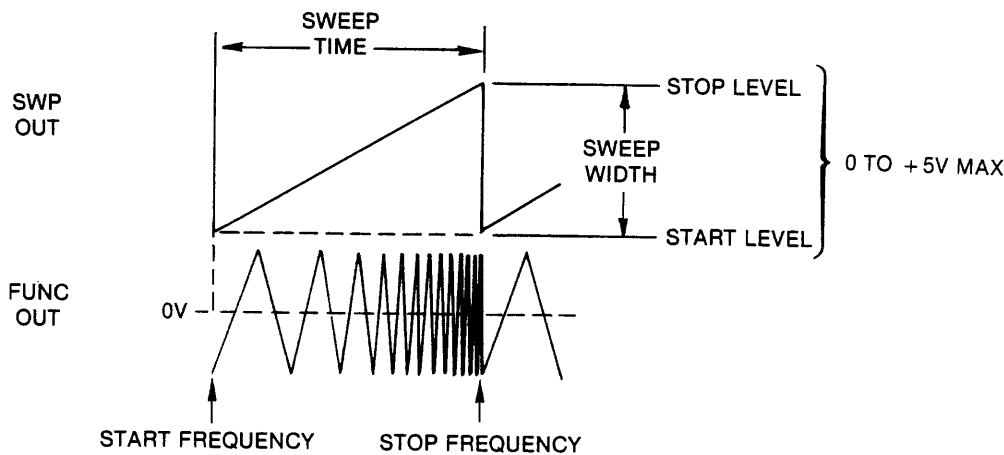

Figure 3-3. Sweep Time and Width
5 Sweep Set Control The Swp Set control, the inner knob of the concentric pair, sets the stop frequency in the sweep modes (see figure 3-3).
- 12 **Sweep Time Switch** The Sweep time button, when pushed, steps through the sweep time (.01, .1, 1, and 10 seconds). Sweep time is indicated by an annunciator arrow on the display. Frequency of the internal sweep ramp, the sweep rate, is governed by the Sweep time switch 12 (see figure 3-3).
Set as desired. Limit offset to prevent clipping (see figure 3-3).